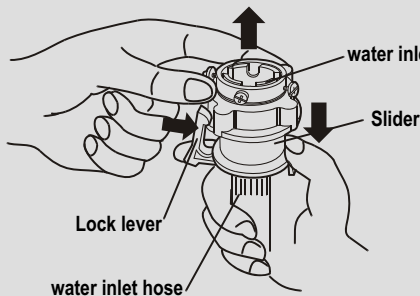
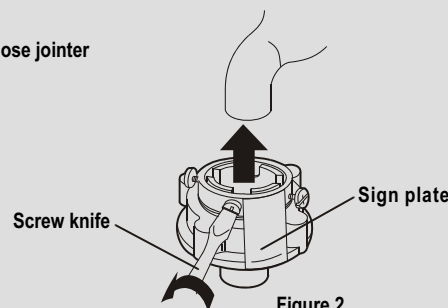
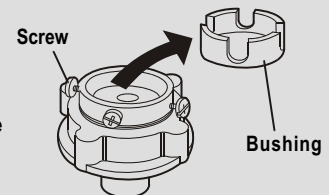

Figure 1
Figure 2
Figure 3
2. Put down the drain hose. Take off the drain hose frame. As indicated in Figure 1, put the drain hose into the cabinet. Then put one hand into the cabinet to nip the claw of the drain hose bushing to release the claw from original position. Take off the drain hose bushing with the other hand. (As indicated in Figure 2 and 3).
1. Press the lower end of the lock lever and push down the slider. Take off the water inlet hose jointer from the water inlet hose component. See to Figure 1.
2. Loosen the screw till the water faucet can be accessed. Put the jointer of the water inlet hose on the faucet. See to Figure 2. (If the faucet is too large and the jointer can not be set on the water faucet, please loosen the four screws and take out the bushing in the jointer. The front end of the faucet must be smooth, otherwise it may leak water. See to Figure 3.)